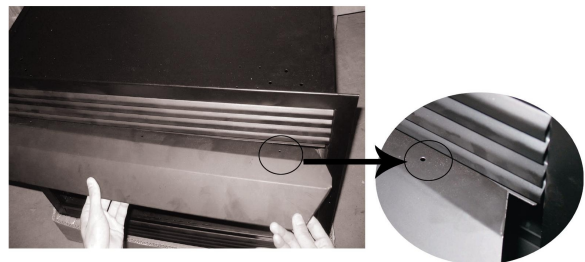

Figure 17
2. Position fireplace hood over firebox top and under insulation. Align holes and fasten hood from inside with the three screws provided (see Figure 17).